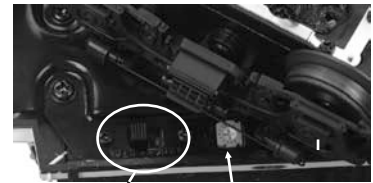

Figure 4: Smoke Unit Control + 2Rail/3Rail Switch
2. Change the power input from 3-Rail to 2-Rail as seen in figure 4 (above).